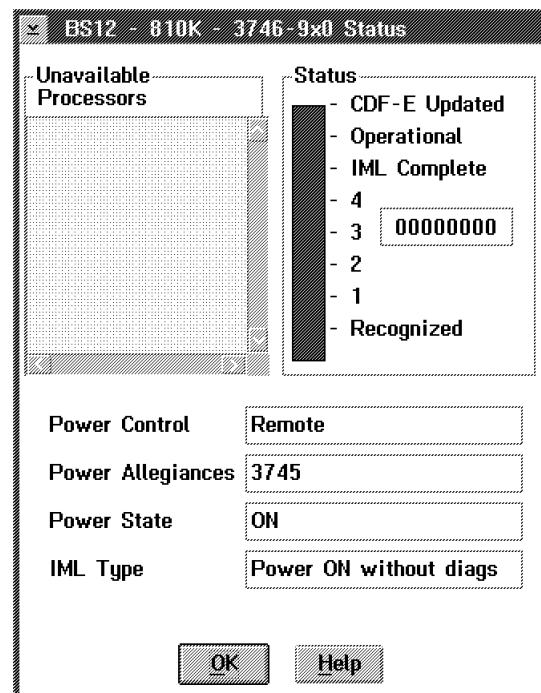

Figure 1-8. 3746-9x0 Status Display
2. Click on **status** pulldown option, the following screens are displayed (see Figure 1-8 for the 3746-9x0 and Figure 1-9 on page 1-6 or Figure 1-10 on page 1-6 for the 3745 X1A or 17A).